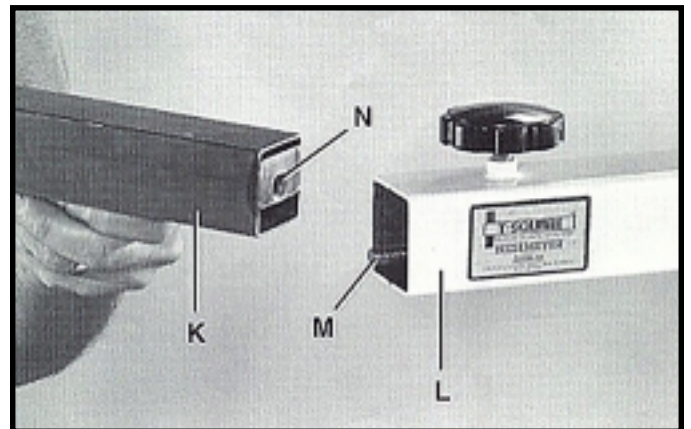

Fig. 9
6. Align adjusting arm (K) Fig. 9, with mounting bracket (L) making sure threaded rod (M) is threaded into nut (N) of adjusting arm (K).